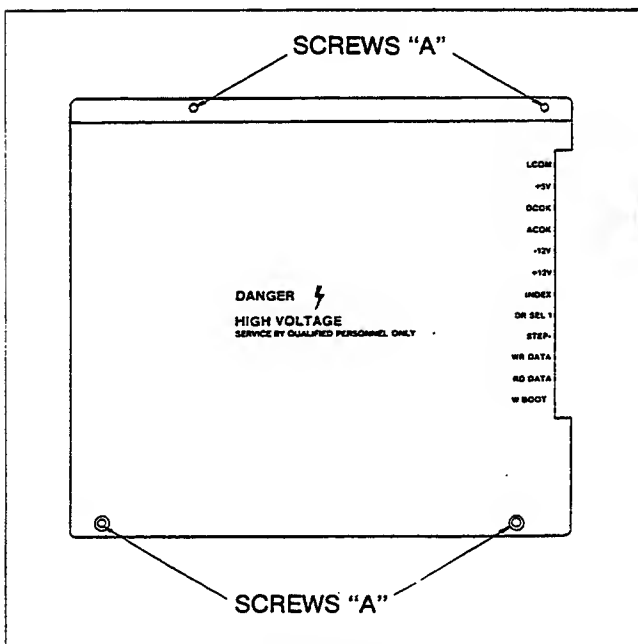

Figure 3-16. Power Supply Cover
2. Referring to Figure 3-16, expose the power supply by removing the four screws (A) that retain the right rear module cover and remove the cover.
2. Referring to Figure 3-16, remove the retaining screws (A) from the power supply cover, and remove the cover, exposing the power supply.